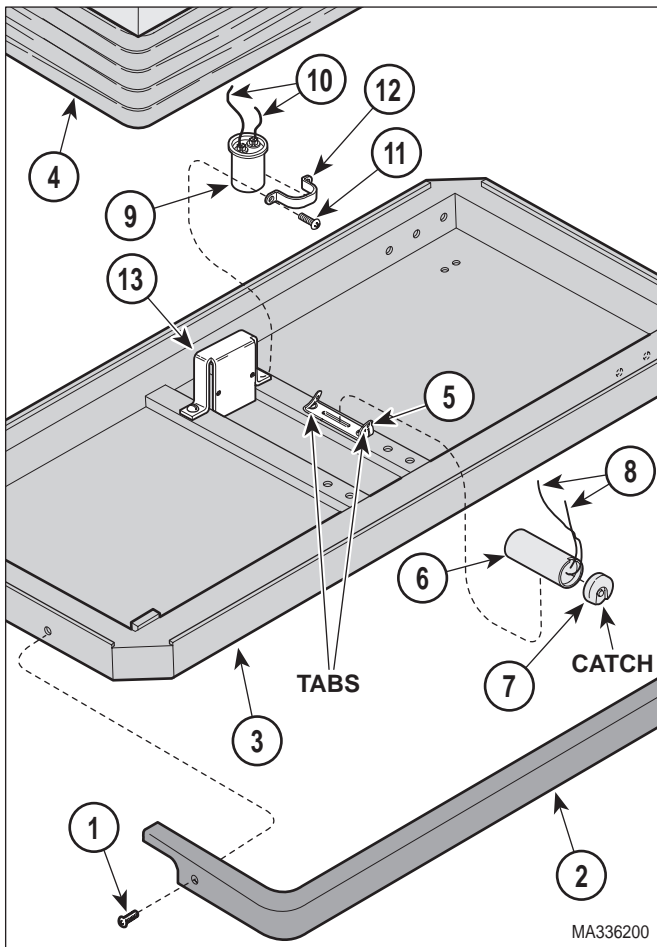

Figure 4-9. Base Capacitor Removal / Installation
- (2) If TABLE UP function *is not* operable, bypass the base capacitor (Refer to para 4.29) and raise TABLE UP function all the way up; then go to step 3.
- (3) Unplug table power cord from wall outlet.
- (4) Remove four screws (1, Figure 4-9) and two bellows retainer trim (2) from lower base weldment (3).
- (5) Raise bellows (4) and support in the up position.